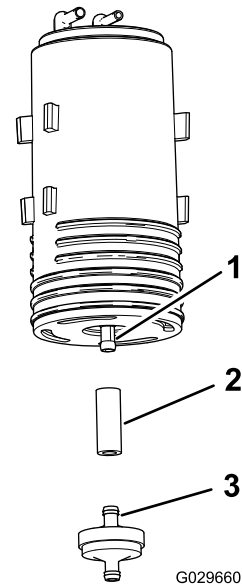

Figure 46
- Remove the carbon-canister filter and the short section of hose from the lower fitting of the old carbon canister (Figure 46).
- Install the hose onto the lower fitting of the new carbon canister (Figure 46).
- Insert the fitting of a new carbon-canister filter into the hose (Figure 46).